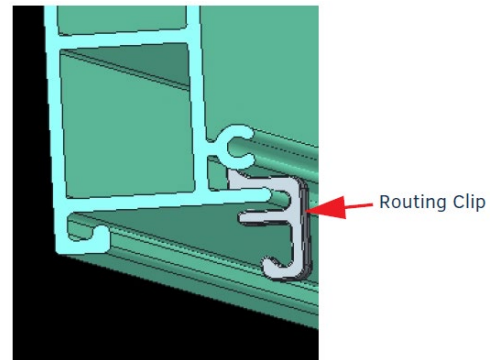

FIG. 6 Bottom View with Cable Routing Clip Installed
3. Secure the cables in at least one additional location after they have been secured to the system to prevent undue stress if the cables are inadvertently kicked, snagged or pulled. Routing clips are provided that slide into the bottom channel of the base assembly and leave a gap to hold the cable (FIG. 6). These clips come in two different sizes, the larger gap is for the thicker RGB+A RCM cable.